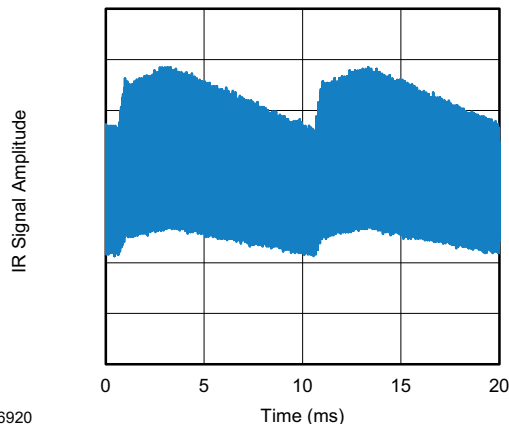
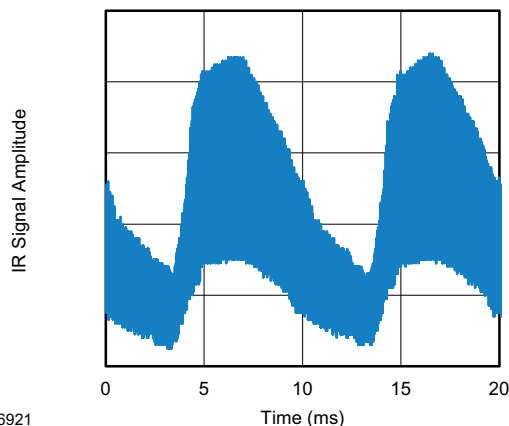

Fig. 13 - IR Signal from Fluorescent Lamp With Low Modulation
Fig. 14 - IR Signal from Fluorescent Lamp With High Modulation
- Strongly or weakly modulated patterns from fluorescent lamps with electronic ballasts (see Fig. 13 or Fig. 14)
| Suppression of interference from fluorescent lamps                         | Fig. 13                         | Fig. 13 and Fig. 14             | Fig. 13 and Fig. 14              |